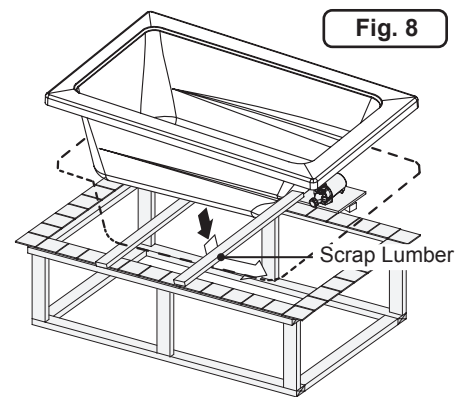

Fig. 8
- Place a piece of scrap lumber on each of the ends of the cutout – this will be used as a temporary support prior to lowering the bathtub fully into the opening (Figure 8).